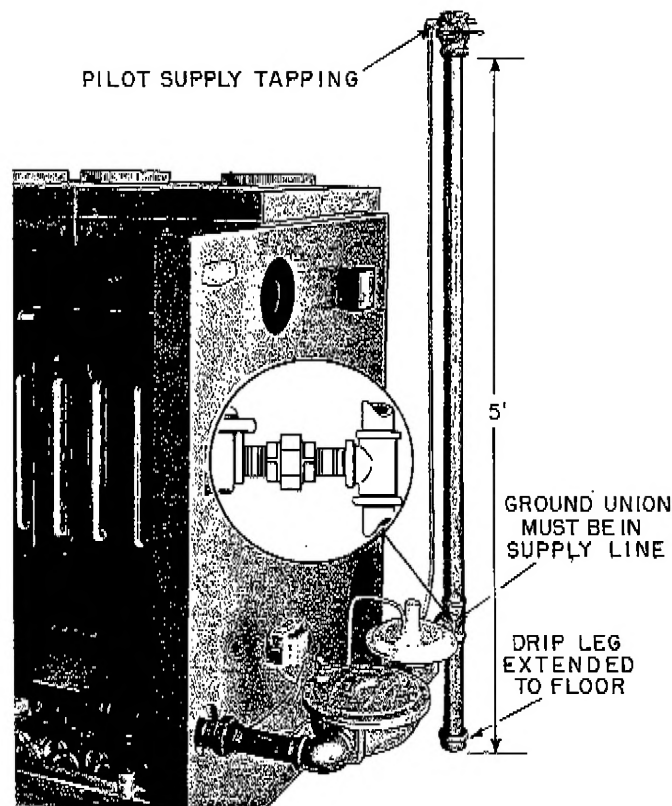

Figure 1 - Gas Piping
2. Mount the main manual shut-off valve approximately 5 feet above the floor level. The tapping for the pilot supply valve should be on the inlet (supply) side of the main shut-off valve. See Figure 1.
3. Provide a drip leg below the main manual shut-off valve. Extend it to the floor to help support the main supply piping. In addition, support the supply pipe with adequate hangers or straps. See Figure 1.
4. Provide a ground joint union in the line between the main manual shutoff valve and the gas burner controls. See Inset, Figure 1.